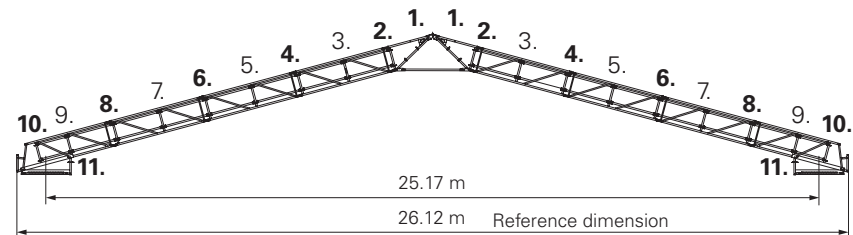

Fig. B1.06b
- without tension system (Fig. B1.06b).